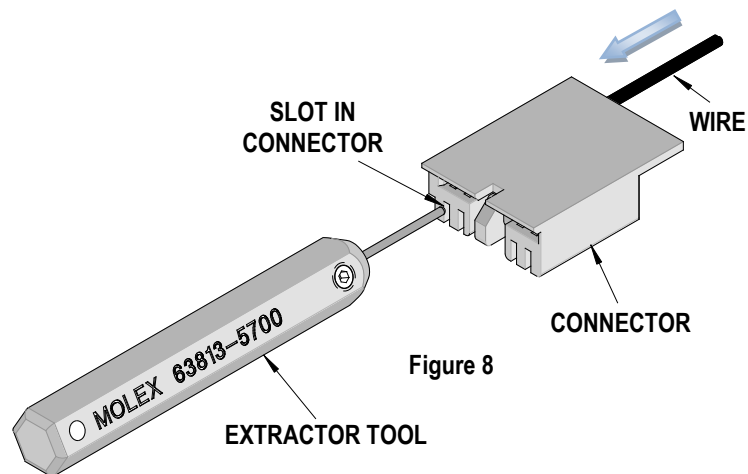

Figure 8
2. Position the blade of the extraction tool into the small slot (in line with the terminal to be removed) in the front face of the housing as shown in Figure 8.